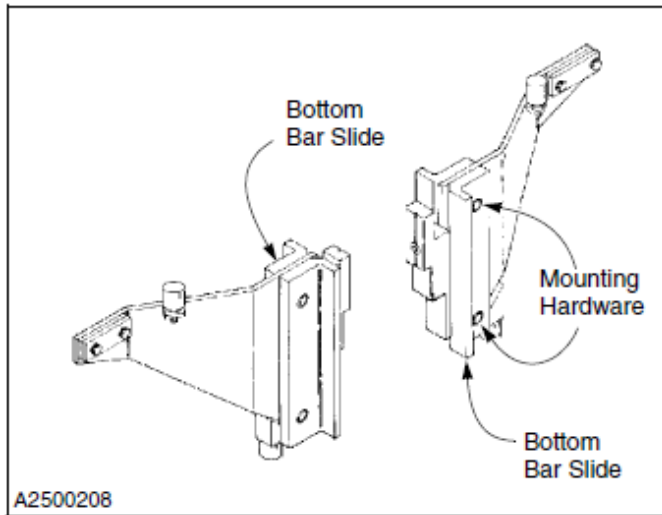

Figure 28
6. Inspect the bottom bar slides and mounting hardware on each end bracket for wear. Replace as required. (See Figure 28)